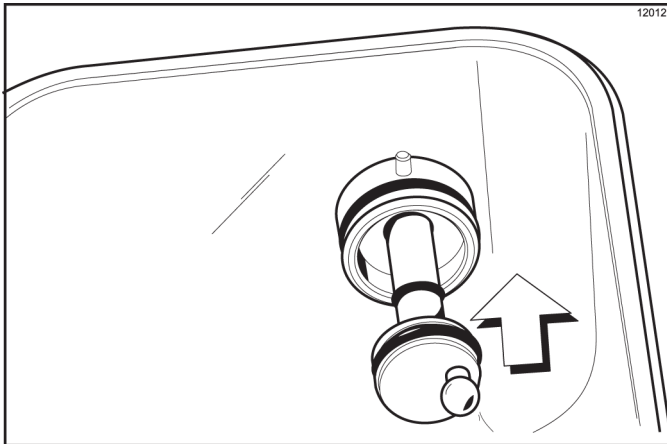

Figure 6-34
14. Install the hex end of the drive shaft into the drive hub at the rear wall of the mix hopper. (See Figure 6-34.)